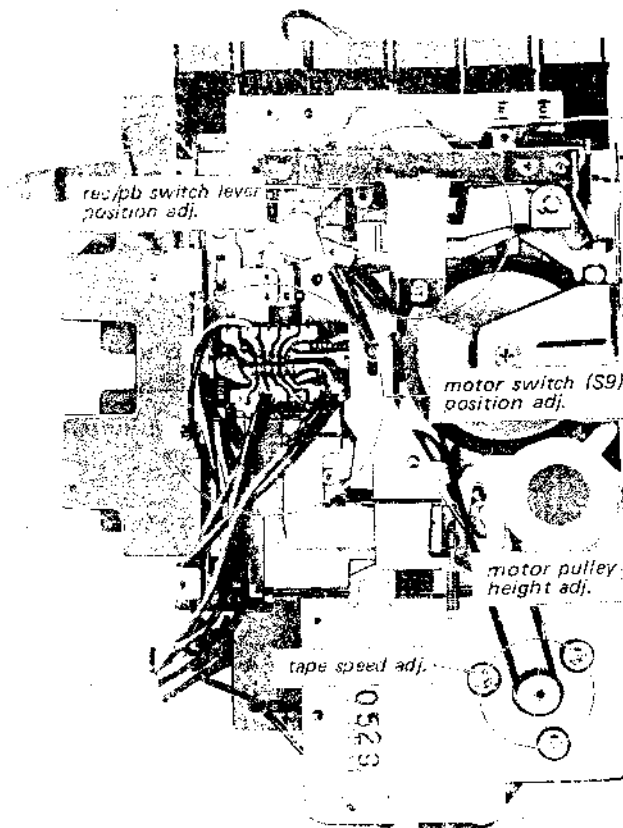

Fig. 3-2. Adjusting parts location (2)
**3-3. MOTOR SWITCH (S9) POSITION ADJUSTMENT (See Fig. 3-2 and 3-4)**
**3-4. MOTOR PULLEY HEIGHT ADJUSTMENT (See Fig. 3-2 and 3-5)**
**3-5. REC/PB SWITCH LEVER POSITION ADJUSTMENT (See Fig. 3-2 and 3-6)**